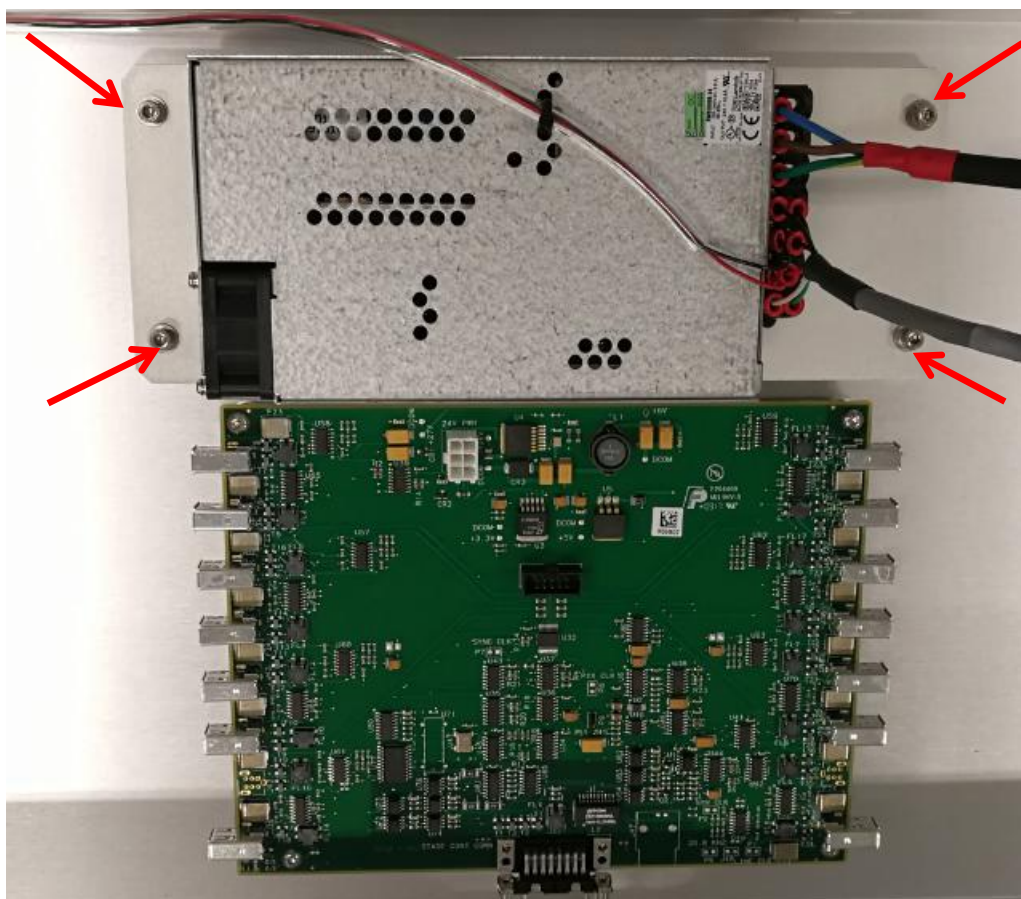

Figure 22 Trigger Board Power Supply & Adapter Assembly
6. Assemble Trigger Board Power Supply & Adapter at Trigger Board Tray as below Figure 22. Tighten 4 pcs M4 x 12 Screws & M4 Spring Locks